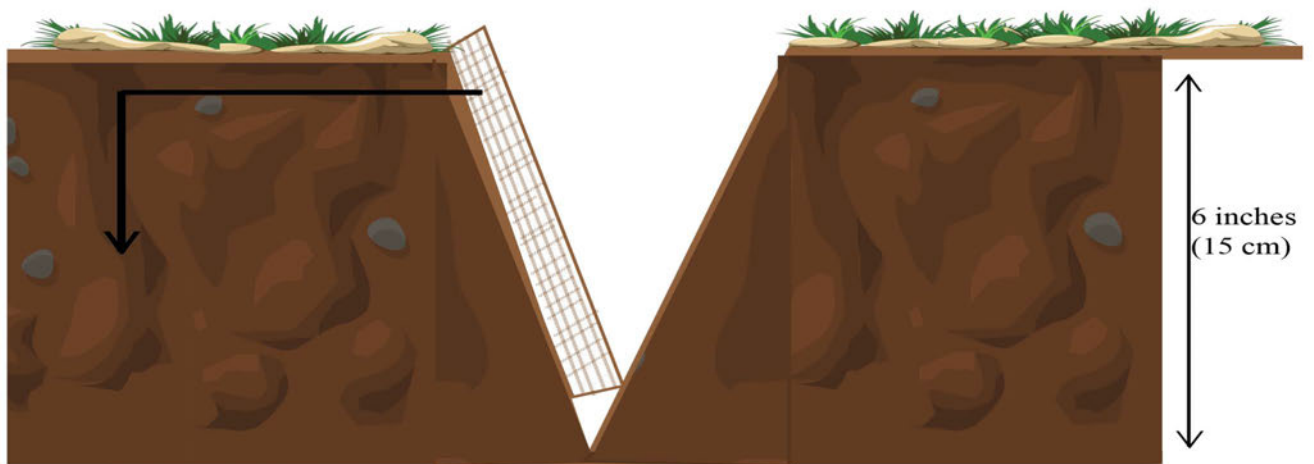

Figure 2-3 Cross section of a soil sample collection point
2. Collect the soil sample unit by making a 'V' shaped cut to a depth of 15 cm in the sampling spot using spade to scrape the thick slices of soil on the surface as shown in the Figure 2-3. Then place the samples in a tray or a bucket.